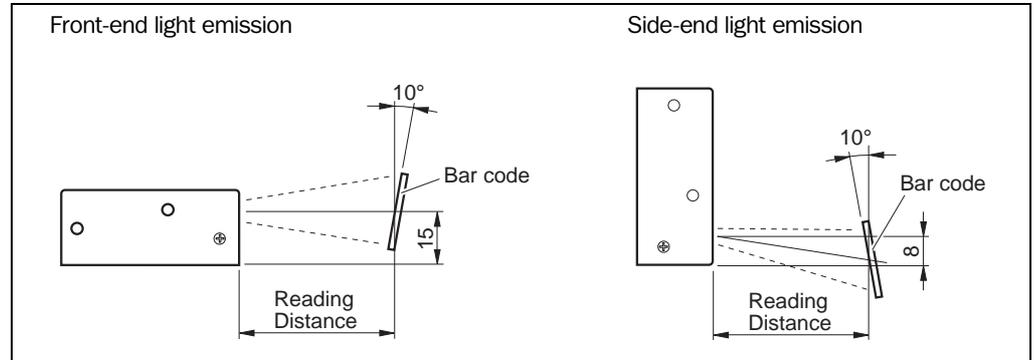

Fig. 4-5: Angle between the emitted light and the bar code (tilted to the perpendicular)
Note If the light of the scan line falls exactly vertically on the surface of the bar code, disturbing reflections can occur when the reflected light is received. In order to avoid this effect the CLP 100 must be installed so that the emitted light is tilted relative to the perpendicular (refer to Figure 4-5).
2. In order to avoid disturbing reflections align the CLP 100 so that the emitted light impacts on the bar code at an angle of 100° (refer to Figures 4-5 and 4-6).